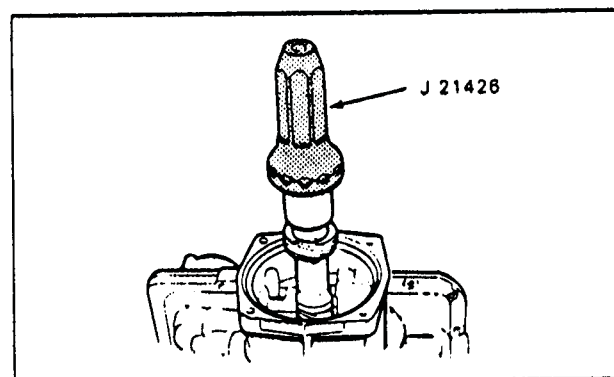

Figure 174
3. Install the output shaft sleeve onto the output shaft (See Figure 174).